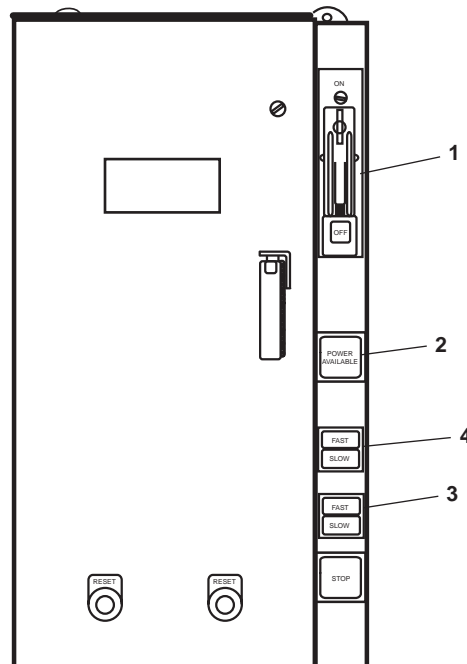

Figure 17. Engine Room Supply and Exhaust Fans Motor Controllers
- (1) Set the ON-OFF switch (figure 17, item 1) to the ON position.
- (2) The POWER AVAILABLE indicator (figure 17, item 2) will illuminate.
- (3) Press the FAST pushbutton (figure 17, item 3).
- (4) The FAST indicator (figure 17, item 4) will illuminate.
- (2) The POWER AVAILABLE indicator (figure 17, item 2) will light.
- (4) The FAST indicator (figure 17, item 4) will light.